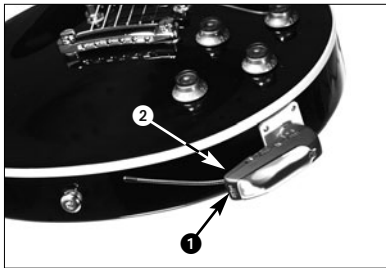

Fig. 5: Stabilizing the transmitter.
2. Screw the adapter plug (3) onto the threaded plug (2) on the transmitter (2) CW.
4.4 Stabilizing the Transmitter (refer to fig. 5)